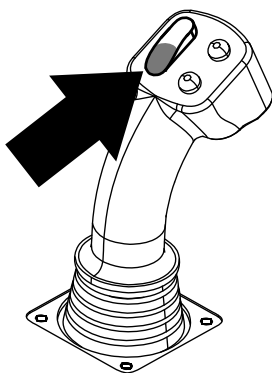

Figure 8
3. Hold the lower section of the rocker switch (Figure 8) until the elevator lowers, the cam assembly rotates toward the operator station, and the arms fully extend (Figure 9).